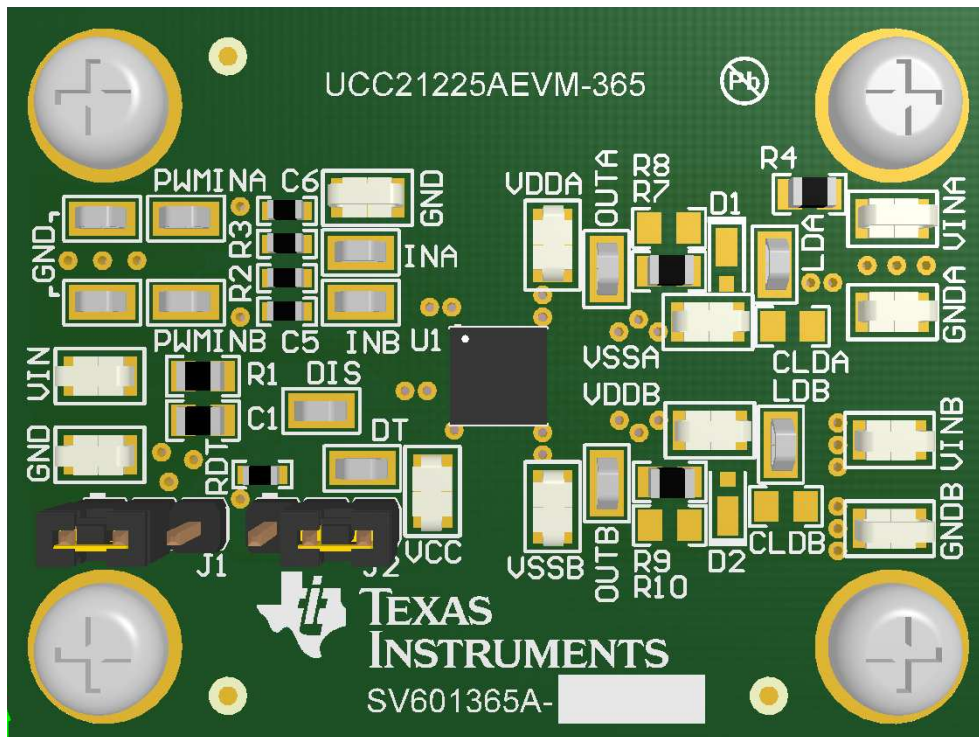

Figure 1. Jumpers Installation Position
1. Shunt #1 on header J1 on pin 1-2 as shown in Figure 1.
2. Shunt #2 on header J2 on pin 2-3 as shown in Figure 1.